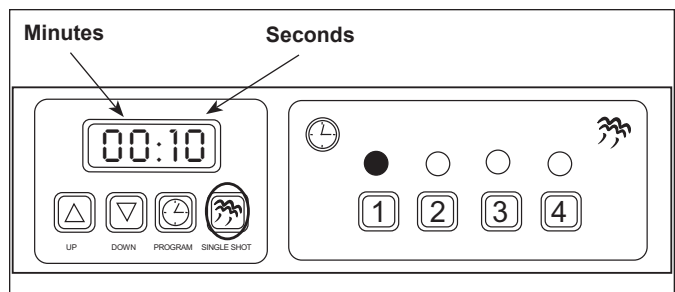

Figure 7. Programming Mode SINGLE SHOT Button Used for Saving All Changed Settings.
**NOTE: During preheating, the display will flash "LOW". When unit reaches operating temperature, the display shows the factory preprogrammed (default) time in minutes/seconds (Figure 7) and the active channel indicator light will be on.**
3. Press the UP or DOWN arrow buttons to change the total cycle time in minutes (Figure 7).